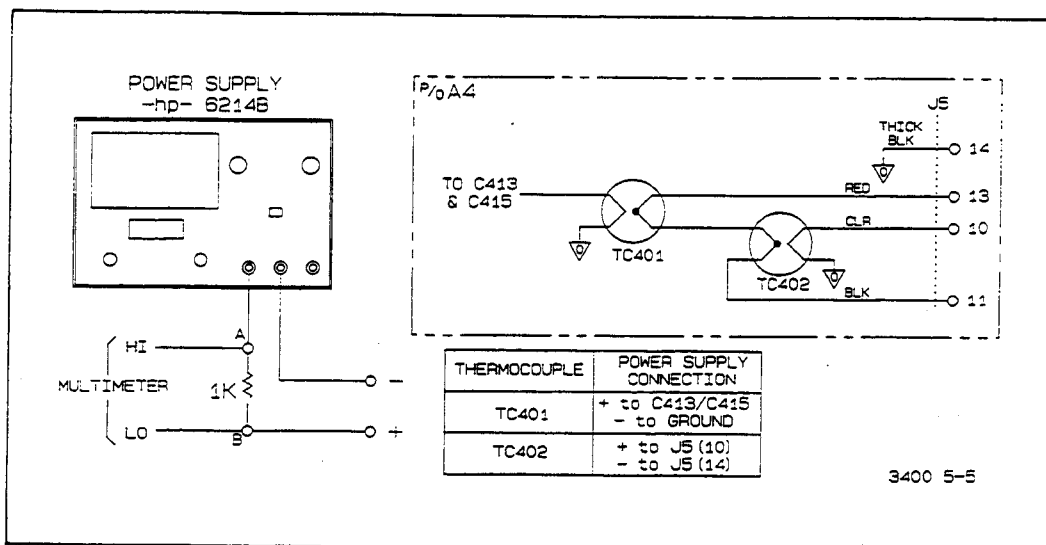

Figure 5-5. Testing the Thermocouples
5-37. The thermocouple tests consist of checking the heater resistance and output voltage of each thermocouple. The heater resistance is checked using an ohmmeter. The output voltage is checked by supplying 5 mA dc current to the heater and then measuring the output voltage. If the thermocouple fails any of the tests, replace it using the procedure in paragraph 5-38. A Digital Multimeter (like the -hp- Model 3468A/B), a 10 V dc power supply (like the -hp- Model 6214B), and a 1 Kohm $\pm 0.1\%$ resistor (-hp- Part Number 0698-7449) are needed for the tests. Refer to Figure 5-5 while performing the following procedure.
d. Connect the 1 Kohm resistor to the power supply as shown in Figure 5-5.
e. Connect the power supply and 1 Kohm resistor between the junction of C413 and C415, and ground. This checks the TC401 output voltage. Refer to Figure 5-5 and connect the HI lead of the multimeter to point A and the low lead to point B (i.e., across the resistor). Turn the power supply on and adjust it for a 5 V reading on the multimeter.
i. Connect the power supply and 1 Kohm resistor between the clear lead on R4 and pin 14 on the A6 socket. This checks the TC402 output voltage. Refer to Figure 5-5 and connect the HI lead of the multimeter to point A and the low lead to point B (i.e., across the resistor). Turn the power supply on and adjust it for a 5 V reading on the multimeter.
i. Connect the power supply and 1 Kohm resistor between pins 10 and 14 on the A6 socket. This checks the TC402 output voltage. Refer to Figure 5-5 and connect the HI lead of the multimeter to point A and the low lead to point B (i.e., across the resistor). Turn the power supply on and adjust it for a 5 V reading on the multimeter.